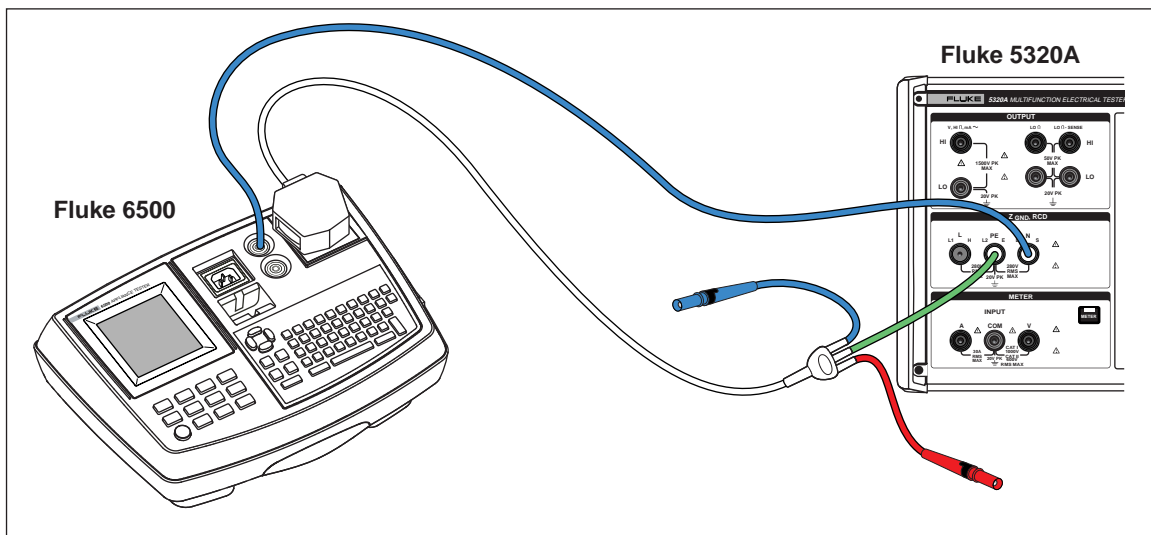

Figure 7-9. Ground Bond Resistance Calibration on Fluke 6500 Using the Cable Adapter
1. Using Figures 7-9 through 7-11, connect the UUT to the Z_{GND} PE and N terminals of the Calibrator.